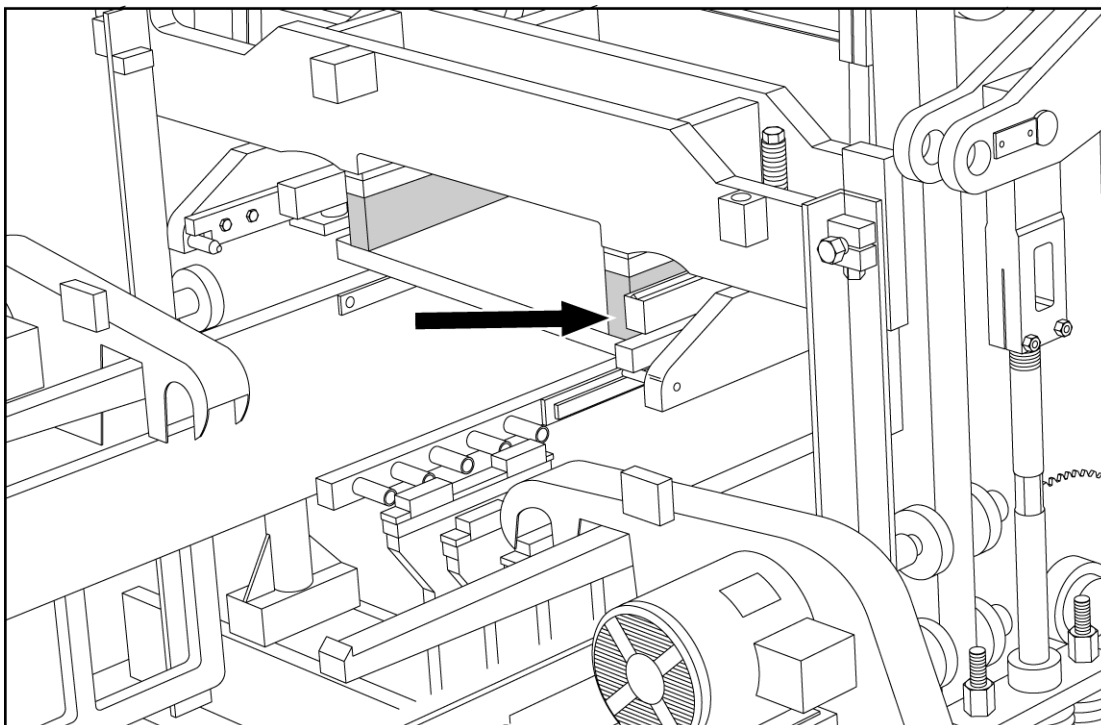

Figure 4.62 95MM (3 3/4") BLOCKING UNDER STRIPPER HEAD FRAME
- 4.4.9 The ULTRAPAC II is now ready for the installation of the mold assembly. Follow the directions for installing an attachment in section 5 of this manual. When installing the stripper head, use **356 mm [11"]** long bolts (**part #087159**) and insert **95mm [3 3/4"]** of blocking in addition to the **38mm [1 1/2"]** blocks already affixed to the stripper head frame (figure 4.62).